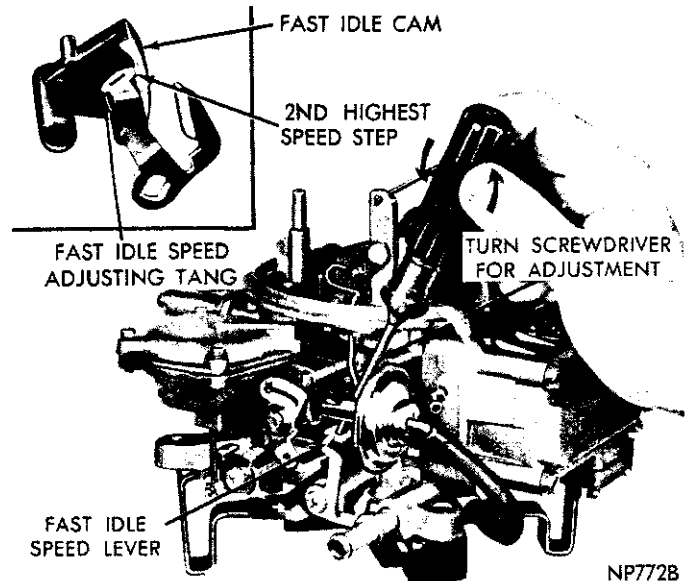

Fig. 20—Fast Idle Speed Adjustment (On Vehicle)
(1) With the engine off and the transmission in the PARK or NEUTRAL position, open the throttle slightly.
(2) Close choke valve until fast idle screw tang can be positioned on the second highest-speed step of the fast idle cam (Fig. 20).
(3) Start the engine and determine the stabilized speed. Bend the fast idle tang by use of a screwdriver placed in the tang slot to secure the specified speed.* **CAUTION: Bend only in a direction perpendicular to the contact surface of the cam. Movement in any other direction changes the CAM POSITION ADJUSTMENT described earlier.**
(4) Stopping the engine between adjustments is not necessary. However, reposition the fast idle tang on the cam after each speed adjustment to provide correct throttle closing torque.